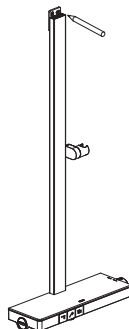

Figure 3
- b) Connect the raiser rail to the thermostatic panel and Vmark the installation position (Figure 3).